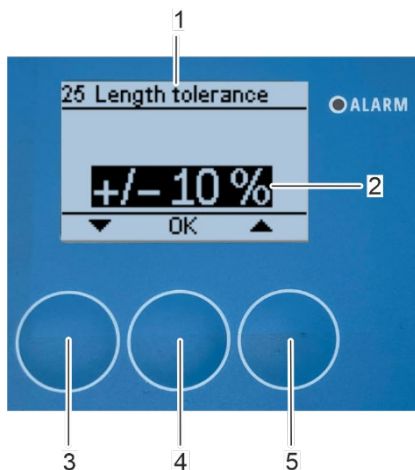

Fig. 135: Set length tolerance
⇒ The "25 Length tolerance" submenu appears on the display (Fig. 135/1).
3. Set the length tolerance (Fig. 135/2) with the arrow keys [up] (Fig. 135/5) and [down] (Fig. 135/3).
4. Confirm the setting with [OK] (Fig. 135/4).